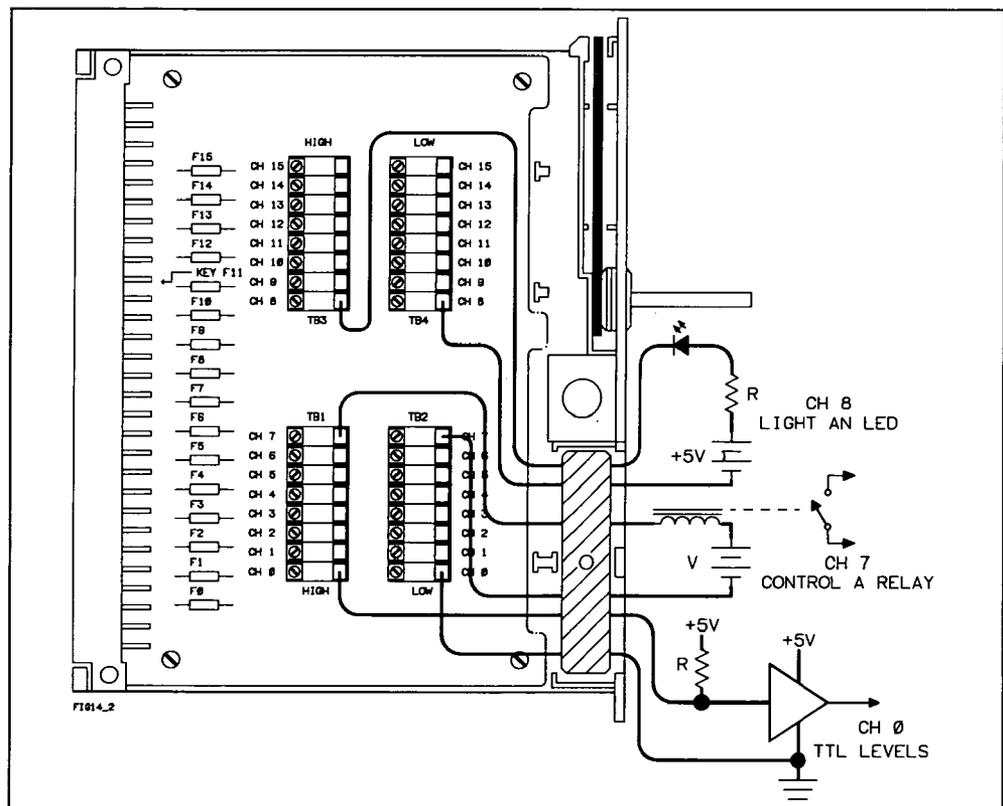

Figure 2-2. Typical Field Wiring Connections
Figure 2-2 shows three applications for the digital output and typical field wiring connections. Channel 8 is used to turn an LED on or off and an external source (+5V) and current-limiting resistor (R) are required.